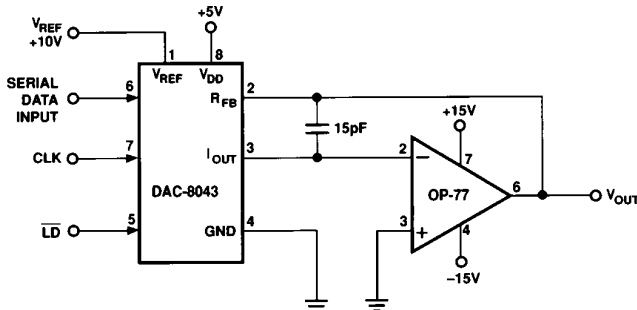

Figure 5. Unipolar Operation with High Accuracy Op Amp (2-Quadrant)
1. Phase compensation (see Figures 5 and 6).
In most applications, linearity depends upon the potential of I_{OUT} and GND (pins 3 and 4) being exactly equal to each other. In most applications, the DAC is connected to an external op amp with its noninverting input tied to ground (see Figures 5 and 6). The amplifier selected should have a low input bias current and low drift over temperature. The amplifier's input offset voltage should be nulled to less than $+200 \mu V$ (less than 10% of 1 LSB).
The circuit shown in Figures 5 and 6 may be used with an ac or dc reference voltage. The circuit's output will range between 0 V and approximately $-V_{REF}$ (4095/4096) depending upon the digital input code. The relationship between the digital input and
¹Nominal full scale for the circuits of Figures 5 and 6 is given by
²Nominal LSB magnitude for the circuits of Figures 5 and 6 is given by
The transfer function for the DAC8043 connected in the multiplying mode as shown in Figures 5, 6 and 7 is: